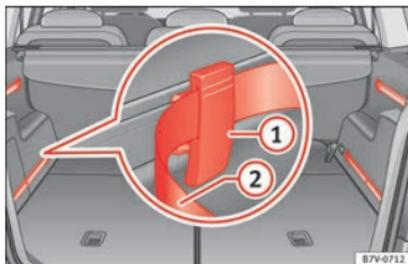

Fig. 169 In the luggage compartment: system including rails, adjustable attachment elements ① and adjustable tightening straps ②.
- Fit the attachment element with the ruts facing upwards » Fig. 169 ① to the upper part of the guide and press downwards.